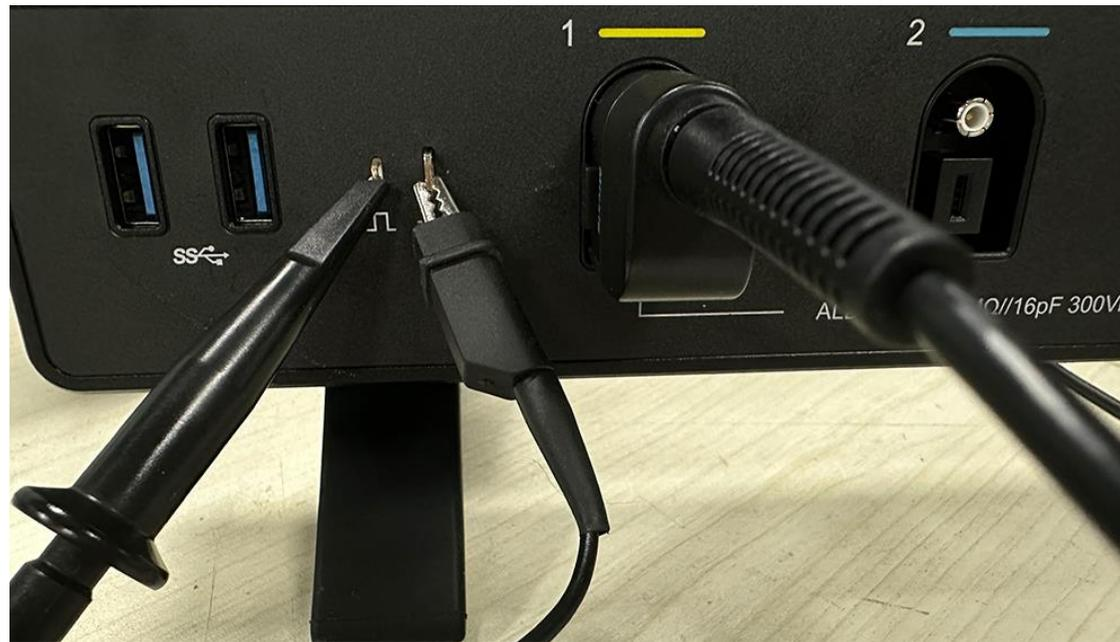

Figure 2-11 Probe Connection
- 2) Connect the probe to the calibration square wave signal output terminal and the probe ground clip to the ground terminal. As shown in Figure 2-11.